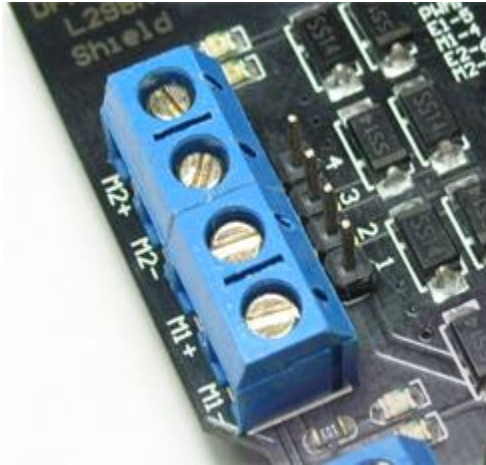

Figure 3 L298 Motor terminal
**Motor Terminal (Figure 3 below):** Two DC motors are connected to blue motor terminals. The male header behind the terminals are the same as the motor terminals.